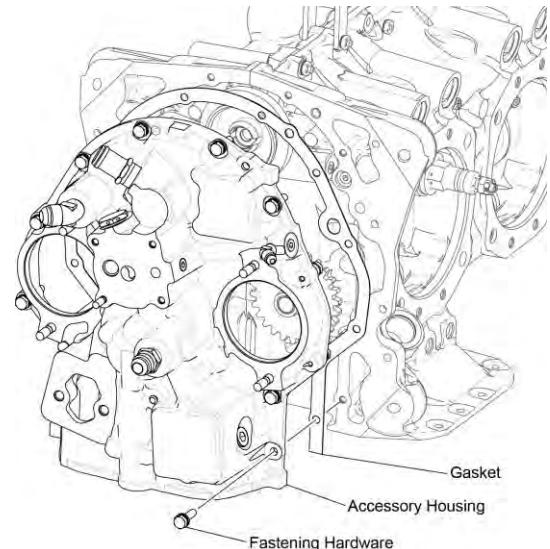

Figure 2
- D. Remove and discard the accessory housing gasket (Figure 2).